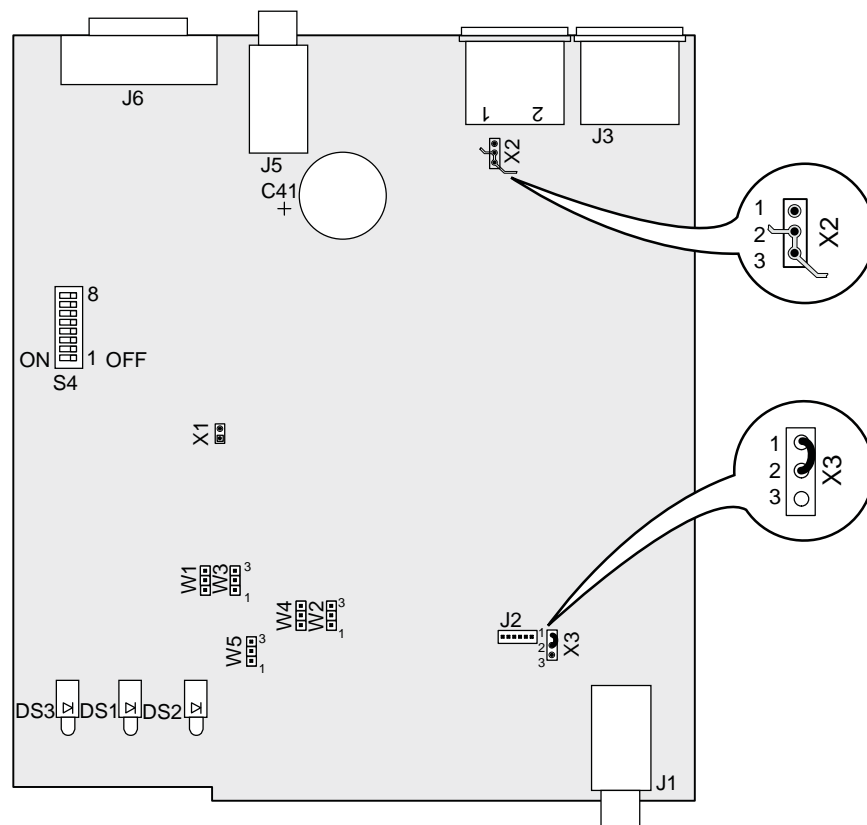

Figure 2. Internal Jumpers and Switches
Before making connections, check that the internal jumpers and DIP switches are properly configured for your intended use. The descriptions and default settings are summarized below and in Tables 1 and 2. For internal access, remove the four long screws (Figure 7, item 11) and remove the top cover. Locations of jumpers and DIP switches are shown in Figure 2.